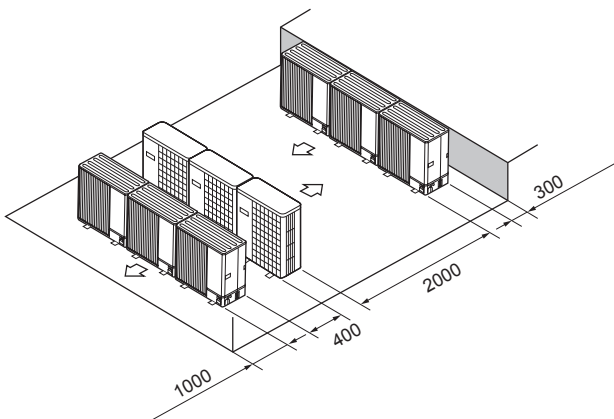

Fig. 2-35
- ⑥ Multiple parallel unit arrangement (Fig. 2-35)